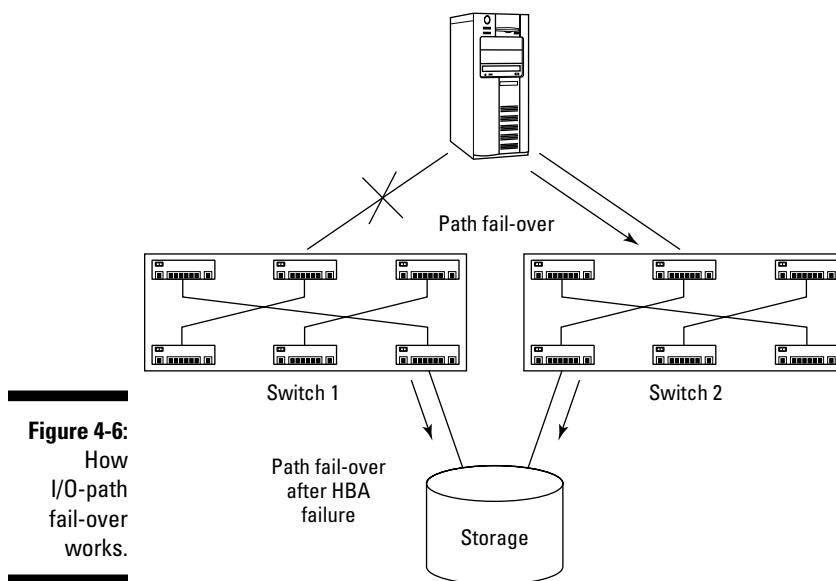

Figure 4-6:
- **Path fail-over** is the capability of one HBA to take over the load of a bad HBA, so if you lose an HBA to a hardware failure, your server still stays up. (See Figure 4-6.)